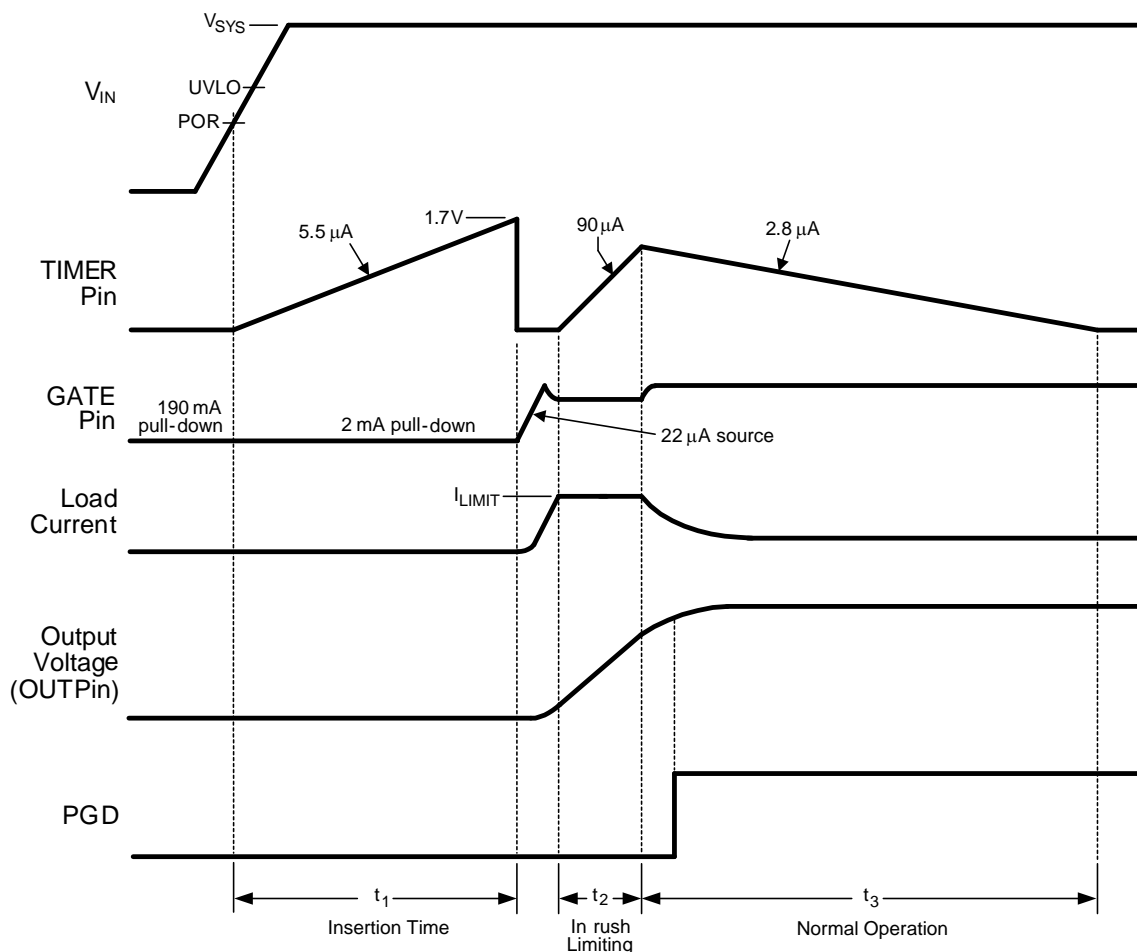

Figure 33. Power Up Sequence (Current Limit Only)
The VIN operating range of the LM25066 is +2.9V to +17V, with transient capability to +24V. Referring to Figure 32 and Figure 33, as the voltage at VIN initially increases, the external N-channel MOSFET (Q1) is held off by an internal 190 mA pull-down current at the GATE pin. The strong pull-down current at the GATE pin prevents an inadvertent turn-on as the MOSFET's gate-to-drain (Miller) capacitance is charged. Additionally, the TIMER pin is initially held at ground. When the VIN voltage reaches the POR threshold, the insertion time begins. During the insertion time, the capacitor at the TIMER pin (CT) is charged by a 5.5 µA current source and Q1 is held off by a 2 mA pull-down current at the GATE pin regardless of the input voltage. The insertion time delay allows ringing and transients at VIN to settle before Q1 is enabled. The insertion time ends when the TIMER pin voltage reaches 1.7V. CT is then quickly discharged by an internal 1.9 mA pull-down current. The GATE pin then switches on Q1 when VSYS, the input supply voltage, exceeds the UVLO threshold. If VSYS is above the UVLO threshold at the end of the insertion time, Q1 switches on at that time. The GATE pin charge pump sources 22 µA to charge the gate capacitance of Q1. The maximum voltage at the GATE pin with respect to ground is limited by an internal 18.8V zener diode.
As the voltage at the OUT pin increases, the LM25066 monitors the drain current and power dissipation of MOSFET Q1. Inrush current limiting and/or power limiting circuits actively control the current delivered to the load. During the inrush limiting interval (t2 in Figure 33), an internal 90 µA fault timer current source charges CT. If Q1's power dissipation and the input current reduce below their respective limiting thresholds before the TIMER pin reaches 1.7V, the 90 µA current source is switched off and CT is discharged by the internal 2.8 µA current sink (t3 in Figure 33). The PGD pin switches high when FB exceeds its rising threshold of 1.167V.
A charge pump provides the voltage at the GATE pin to enhance the N-Channel MOSFET's gate. During normal operating conditions ( $t_3$  in Figure 33) the gate of  $Q_1$  is held charged by an internal  $22\ \mu\text{A}$  current source. The voltage at the GATE pin (with respect to ground) is limited by an internal  $18.8\ \text{V}$  zener diode. See the graph "GATE Pin Voltage" in Typical Performance Characteristics. Since the gate-to-source voltage applied to  $Q_1$  could be as high as  $18.8\ \text{V}$  during various conditions, a zener diode with the appropriate voltage rating must be added between the GATE and OUT pins if the maximum  $V_{\text{GS}}$  rating of the selected MOSFET is less than  $18.8\ \text{V}$ . The external zener diode must have a forward current rating of at least  $190\ \text{mA}$ . When the system voltage is initially applied, the GATE pin is held low by a  $190\ \text{mA}$  pull-down current. This helps prevent an inadvertent turn-on of the MOSFET through its drain-gate capacitance as the applied system voltage increases.
During the insertion time ( $t_1$  in Figure 33) the GATE pin is held low by a  $2\ \text{mA}$  pull-down current. This maintains  $Q_1$  in the off-state until the end of  $t_1$ , regardless of the voltage at  $V_{\text{IN}}$  or  $\text{UVLO}$ . Following the insertion time ( $t_2$  in Figure 33), the gate voltage of  $Q_1$  is controlled to keep the current or power dissipation level from exceeding the programmed levels. While in the current or power limiting mode, the TIMER pin capacitor is charging. If the current and power limiting cease before the TIMER pin reaches  $1.7\ \text{V}$ , the TIMER pin capacitor then discharges,
When the current limit or power limit threshold is reached during turn-on, or as a result of a fault condition, the gate-to-source voltage of  $Q_1$  is controlled to regulate the load current and power dissipation in  $Q_1$ . When either limiting function is active, a 90  $\mu$ A fault timer current source charges the external capacitor ( $C_T$ ) at the TIMER pin as shown in Figure 33 (Fault Timeout Period). If the fault condition subsides during the Fault Timeout Period before the TIMER pin reaches 1.7V, the LM25066 returns to the normal operating mode and  $C_T$  is discharged by the 1.9 mA current sink. If the TIMER pin reaches 1.7V during the Fault Timeout Period,  $Q_1$  is switched off by a 2 mA pull-down current at the GATE pin. The subsequent restart procedure then depends on the selected retry configuration.
**A) Insertion Delay** -Upon applying the system voltage ( $V_{SYS}$ ) to the circuit, the external MOSFET ( $Q_1$ ) is held off during the insertion time ( $t_1$  in Figure 33) to allow ringing and transients at  $V_{SYS}$  to settle. Since each backplane's response to a circuit card plug-in is unique, the worst case settling time must be determined for each application. The insertion time starts when VIN reaches the POR threshold, at which time the internal 5.5  $\mu A$  current source charges  $C_T$  from 0V to 1.7V. The required capacitor value is calculated from: